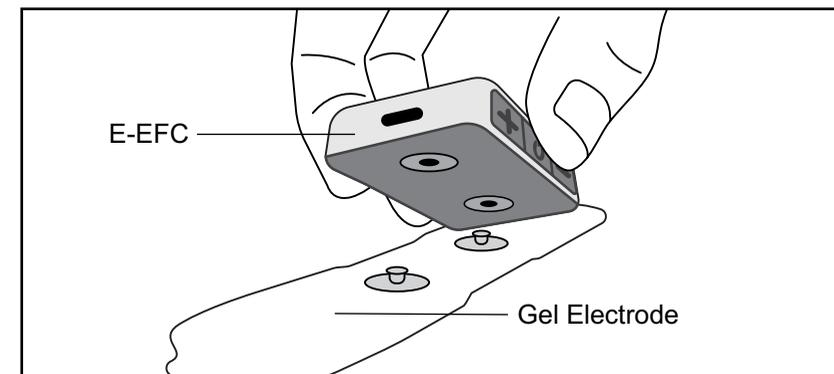

Figure 6-2: StimRouter E-EFC connecting to Gel Electrode.
- Snap the E-EFC onto the Gel Electrode. See Figure 6-2.